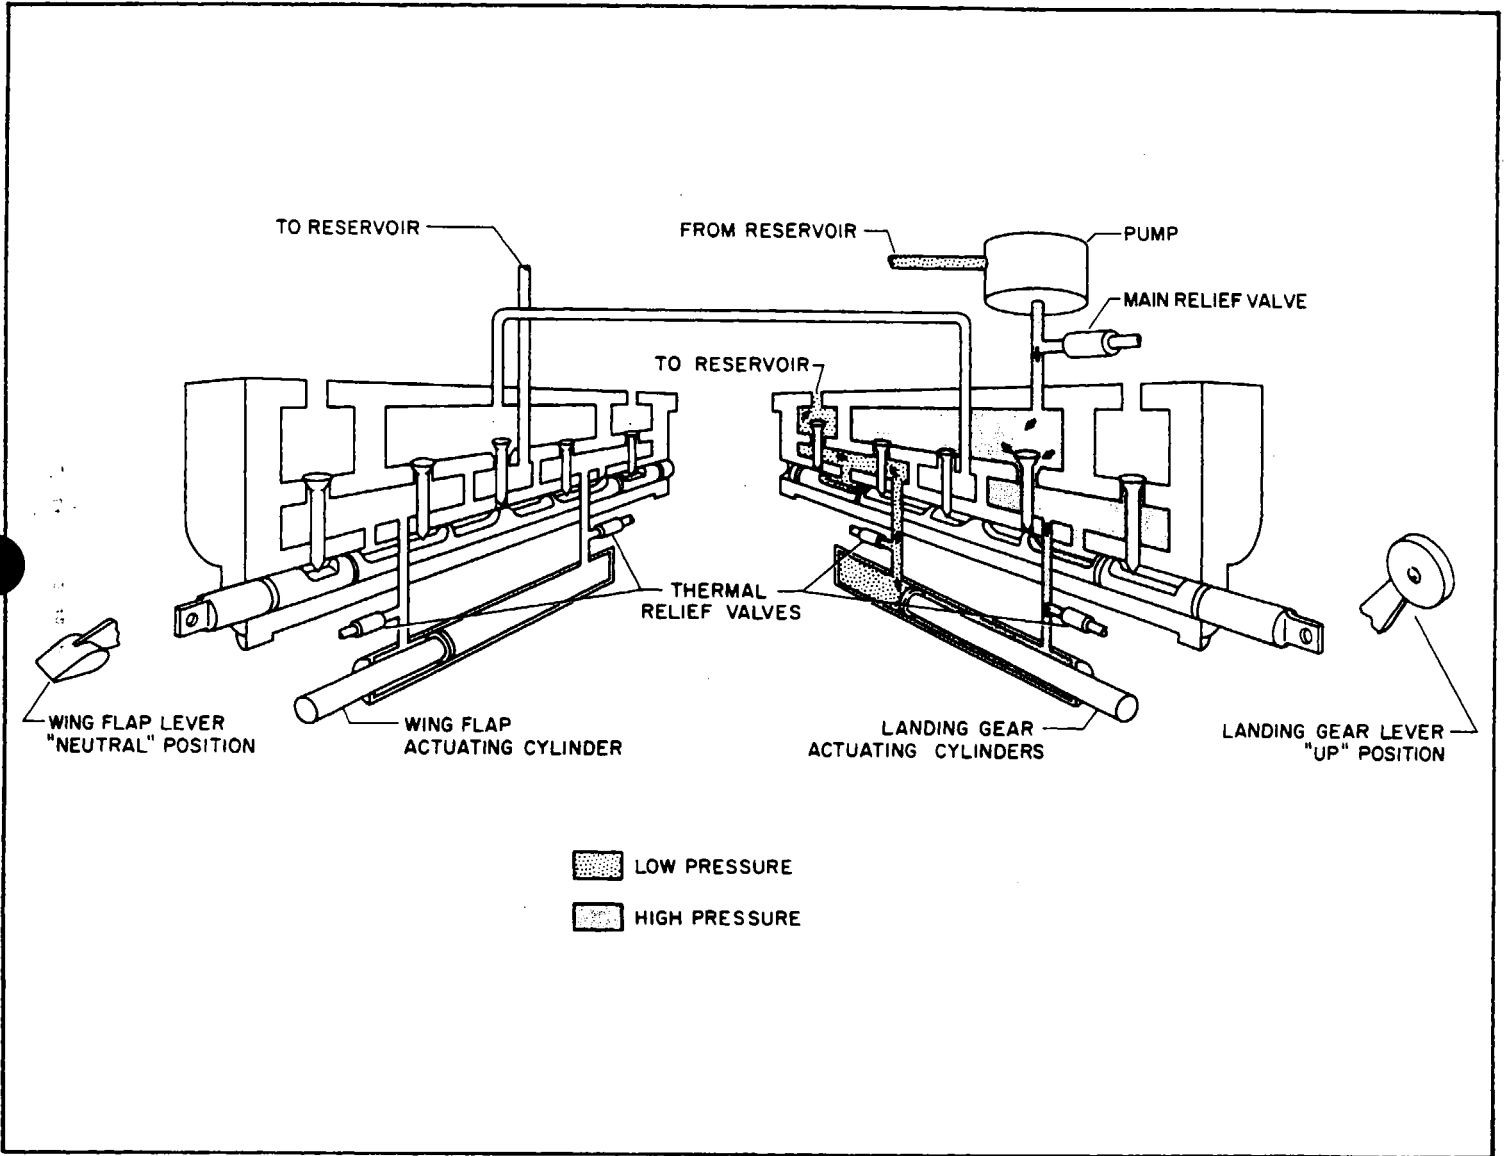

Figure 6-2. Flow Diagram Landing Gear Selector Lever "UP"
a. "LANDING GEAR" selector lever "UP". When the selector lever is moved to the "UP" position, it is locked in place by the action of the detent. The detent consists of the ball (79, Figure 6-7), O-ring (78), plunger (77), spring (76), and plug (75). The ball snaps into the groove (A) in the spool (128) and is held in place by the spring (76). Fluid is directed through the cylinder port and into the actuating cylinder as shown in Figures 6-2 and 6-4. The movement of the piston forces the fluid from the actuating cylinder through the selector valve spool and into the reservoir. When the piston "bottoms", or moves as far as possible, fluid pressure starts to build up until it reaches approximately 1150 psi (1150 psi for the flaps). At this time, the pressure forces the plunger (77, Figure 6-7) up, against the spring (76), relieving the spring pressure on the ball (79). The ball pops out of the groove in the spool and the spring (125), which is under compression, forces the spool (and the selector lever) to return to its neutral position.